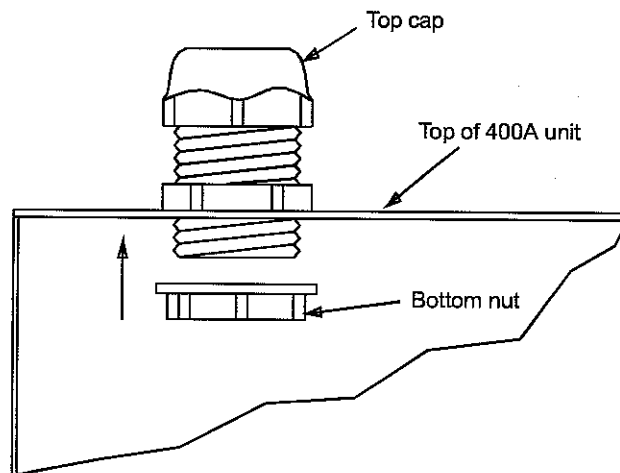

Figure 4—Cable Strain Relief Grommet
3. Install the cable strain relief grommets in the openings made by removing the knockouts (Figure 4).